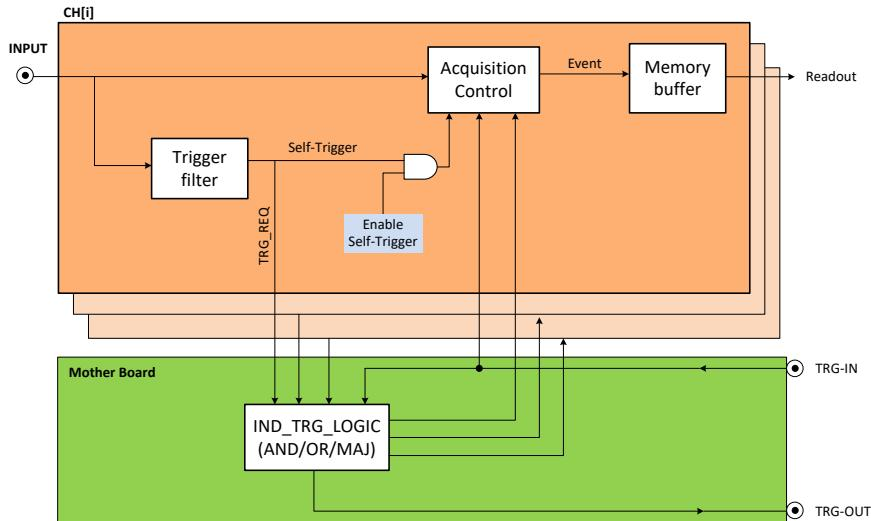

Fig. 2.9: Diagram showing the structure of the trigger management of the DPP-PSD firmware.
2. each channel triggers independently, then only those events satisfying programmable conditions are saved. Referring to Fig. 2.9: the IND_TRG_LOGIC (Individual Trigger Logic) can combine (AND/OR/MAJ) the trigger request (TRG_REQ) from each self-trigger. When the logic condition is met, a trigger validation (TRG_VAL) is sent back to each channel individually to enable the acquisition of that event. Events not receiving a TRG_VAL signal are discarded. This technique allows to make coincidence and anti-coincidence requests among different channels (refer to [RD6] for further details);